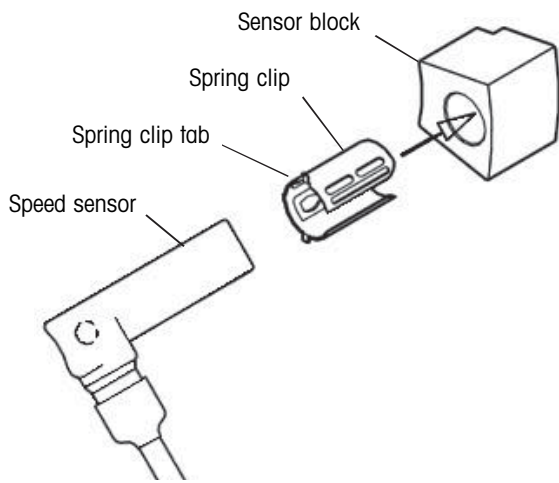

Figure 9. Sensor assembly details
- Remove the fixture tool and let the sensor block cool. After cool down, install the sensor spring clip and sensor as illustrated in figure 9.